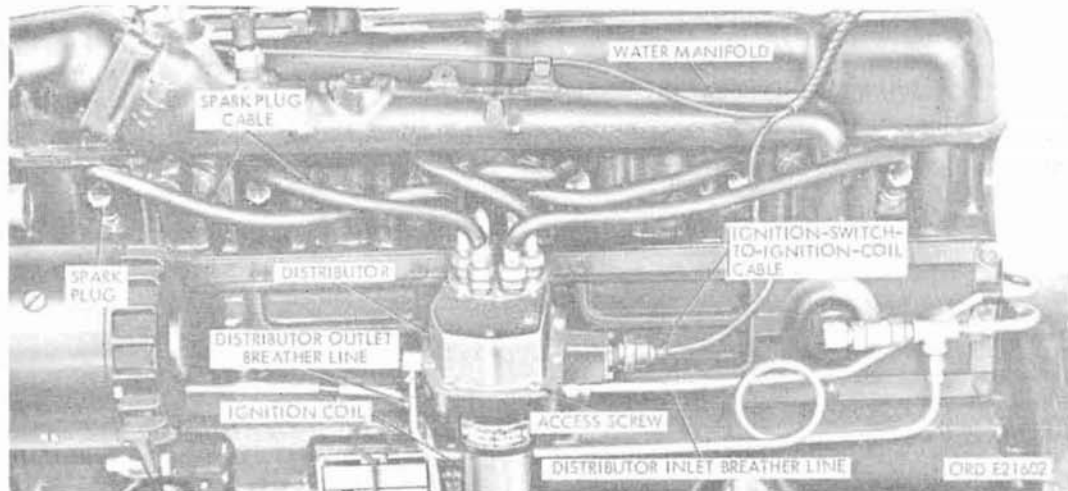

Figure 140. Ignition system
- (1) General. The ignition system (fig. 140) produces and delivers high voltage surges to spark plugs at timed intervals. The system consists of the ignition coil, the distributor, spark plugs, and connecting cables.
- (2) Distributor with coil. The distributor with a built-in ignition coil is a device to convert low voltage to high voltage by interrupting the current flow through
a. Removal. Disconnect ignition-switch-to-ignition-coil cable (fig. 140) and spark-plug cables (par. 99) from the distributor. Disconnect the distributor inlet and outlet breather lines (fig. 140) from fittings in sides of the distributor. Remove the screws and lockwashers from the mounting clamps holding the distributor to the cylinder block, remove the clamps, and lift out the distributor with coil.
rotate the distributor housing (fig. 140) until the edge of the straightedge is between the indicating mark scribed on the rim of the housing. Tighten the screws on the distributor mounting clamps to secure the distributor in position. Check to see that the breaker points are just at the opening point. Connect the ignition-switch-to-ignition coil cable and the spark-plug cables (par. 99) to the distributor.